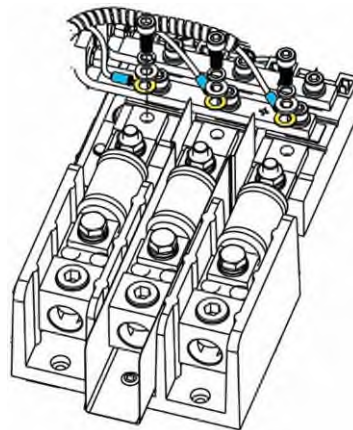

Figure 8 – L1, L2, & L3 Terminal Removal (TTS300/TGS230)
- a. Disconnect the three (3) ring terminals labeled L1, L2, and L3 from the AC bus bars. Refer to Figure 8 – L1, L2, & L3 Terminal Removal (TTS300/TGS230).